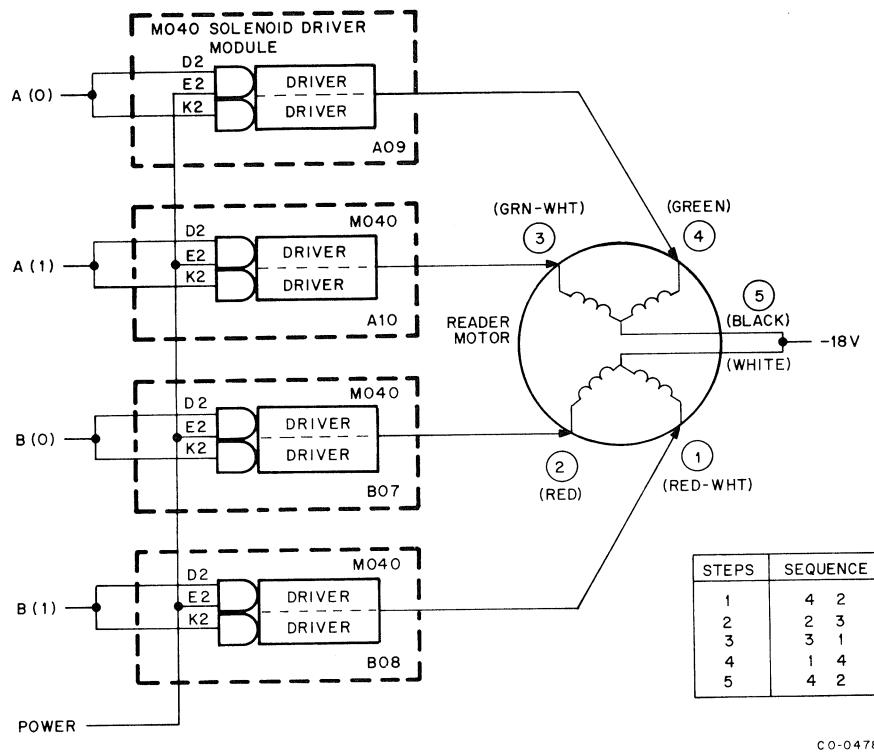

Figure 4-1 Tape Feed Operation
4.1.1 Tape Feed Operation (Figure 4-1)
As a result of these three inputs, both sections of drivers in A09 and B07 conduct, providing drive current to windings 4 and 2. This drive current rotates the motor 1.8 degrees. Switching the driver inputs 200 times, therefore, results in one complete revolution of the motor (1.8 degrees \times 200 = 360 degrees). One motor revolution is equivalent to 100 character positions. Continuous stepping of the inputs in the proper sequence (see chart in Figure 4-1) at the rate of 1.667 ms per step produces a tape-feed rate of 300 characters per second.